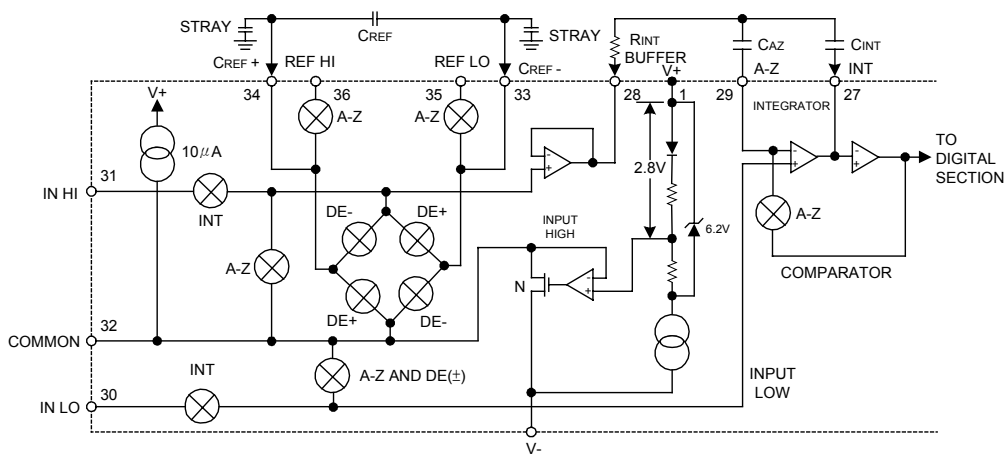

FIGURE 1. ANALOG SECTION
Note 3: Unless otherwise noted, specifications apply to the UTC 7106 at $T_a=25^{\circ}\text{C}$, $f_{\text{CLOCK}}=48\text{kHz}$, UTC 7106 is tested in the circuit of Figure 1.
Figure 1 shows the Analog Section for the UTC 7106. Each measurement cycle is divided into three phases. They are (1) auto-zero (A-Z), (2) signal integrate (INT) and (3) de-integrate (DE).
The UTC 7106, with its negligible dissipation, suffers from none of these problems. In either case, an external reference can easily be added, as shown in Figure 1.